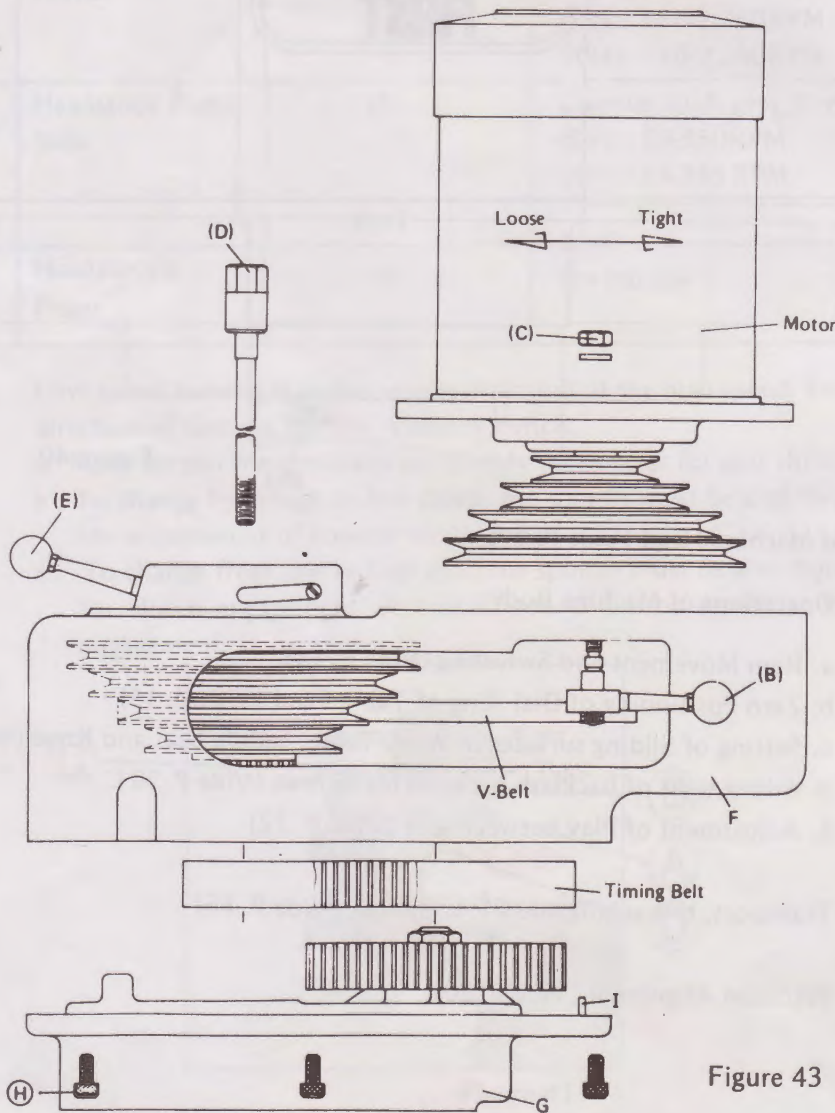

Figure 43
- c. As illustrated in(Figure 43), loosen Adjusting motor handle (B) and move the motor forward to loosen the belt. Turn the V-Belt and let it slip off the belt wheel.
- d. Take off the two hexagonal nuts (C) for motor dismounting.
- e. Take out the drawbar (D) and drop the quill down to the lowest position.
- f. Push the hi-low speed selector (E) to the right front position.
- g. Dismantle the six concave bolts (H) connecting the belt housing (F) and gear housing (G). Strike upward the belt housing lightly and disengage it from the setting pin (I). Then, take out the belt housing. V-Belt and timing belt are therefore replaced.